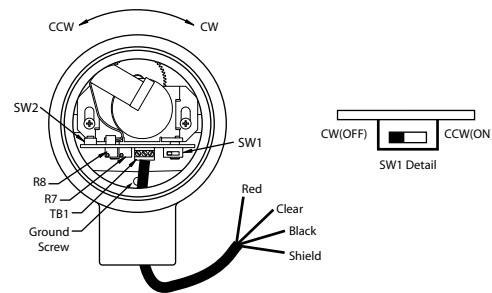

Figure 4:
- See Figure 4 below for related information.
This provides access to the edge of the SG1000F's printed circuit board, namely the direction switch SW1 (the slide switch), and the calibration switch SW2 (the push-button switch). See Figure 4 for locations of these switches.
- If the encoder shaft turns in the CW direction as the process shaft is moved from the fully-closed to the fully-open position, then set SW1 to the OFF position (i.e., toward the center of the PC board). See Figure 4.
- If the encoder shaft turns in the CCW direction as the process shaft is moved from the fully-closed to the fully-open position, then set SW1 to the ON position (i.e., toward the edge of the PC board). See Figure 4.
- D) Assuming conditions (A), (B), and (C) are proper, and your SG1000F still seems to behave improperly, then try re-calibrating again, paying close attention to the eight calibration steps.
- 2) If you have gone through troubleshooting hints (1A), (1B), (1C), and (1D), and if your SG1000F seems to otherwise respond properly, from fully-closed to fully-open, with the only exception being that strange values other than 4 mA and 20 mA are output for the fully-closed/fully-open positions (e.g., 3 mA at one-end and 23 mA at the other-end), then possibly the R7 and R8 factory potentiometer settings have been tampered with. See Figure 4 for location of these pots. Evidence of R7 and R8 tampering is most easily seen when in the calibration mode. When R7 and R8 are at their factory-settings, the output signal is 12 mA during calibration mode. (Recall that the output signal remains at 12 mA until the calibration procedure is completed). If during calibration mode the output signal is not 12 mA, then most likely the R7 and R8 factory-settings have been tampered with.